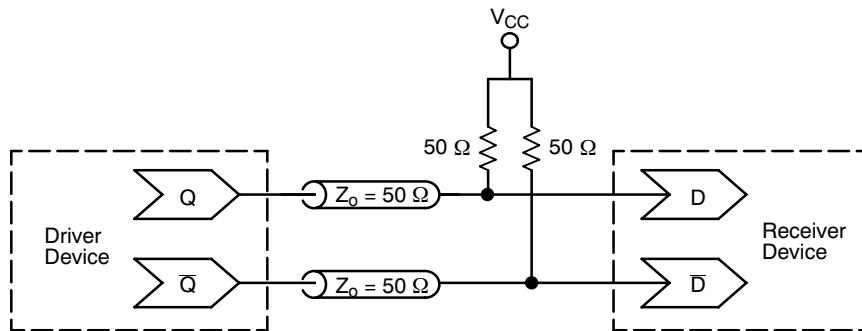

Figure 14. Typical Termination for Output Driver and Device Evaluation
4. CML outputs require  $50\ \Omega$  receiver termination resistors to  $V_{CC}$  for proper operation. See Figure 14.